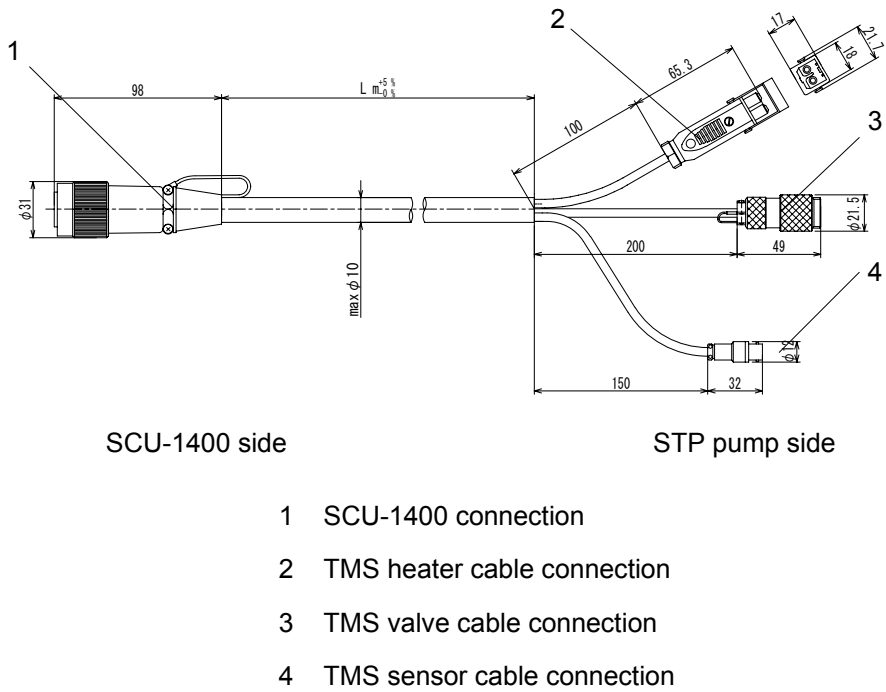

Figure 17 - TMS connection cable (with sensor cable)
*Note: Figure 15 to Figure 17 show typical TMS cables. For details of the TMS cable used with the connected pump module, refer to the STP pump Instruction Manual (B)*